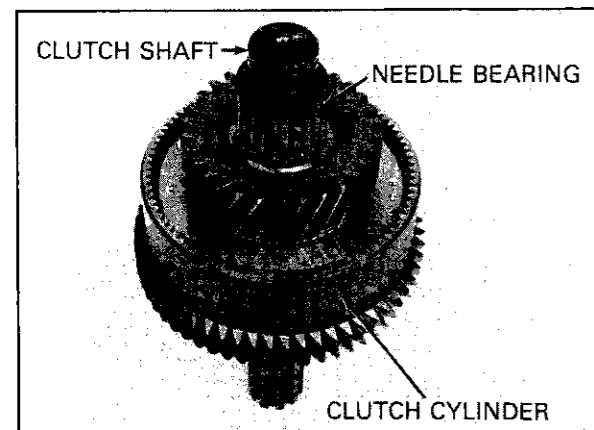

FIG. 29 NEEDLE BEARINGS AND SPACER INSTALLATION
26. Assemble both needle bearings into the bore of the gear (Fig. 29).